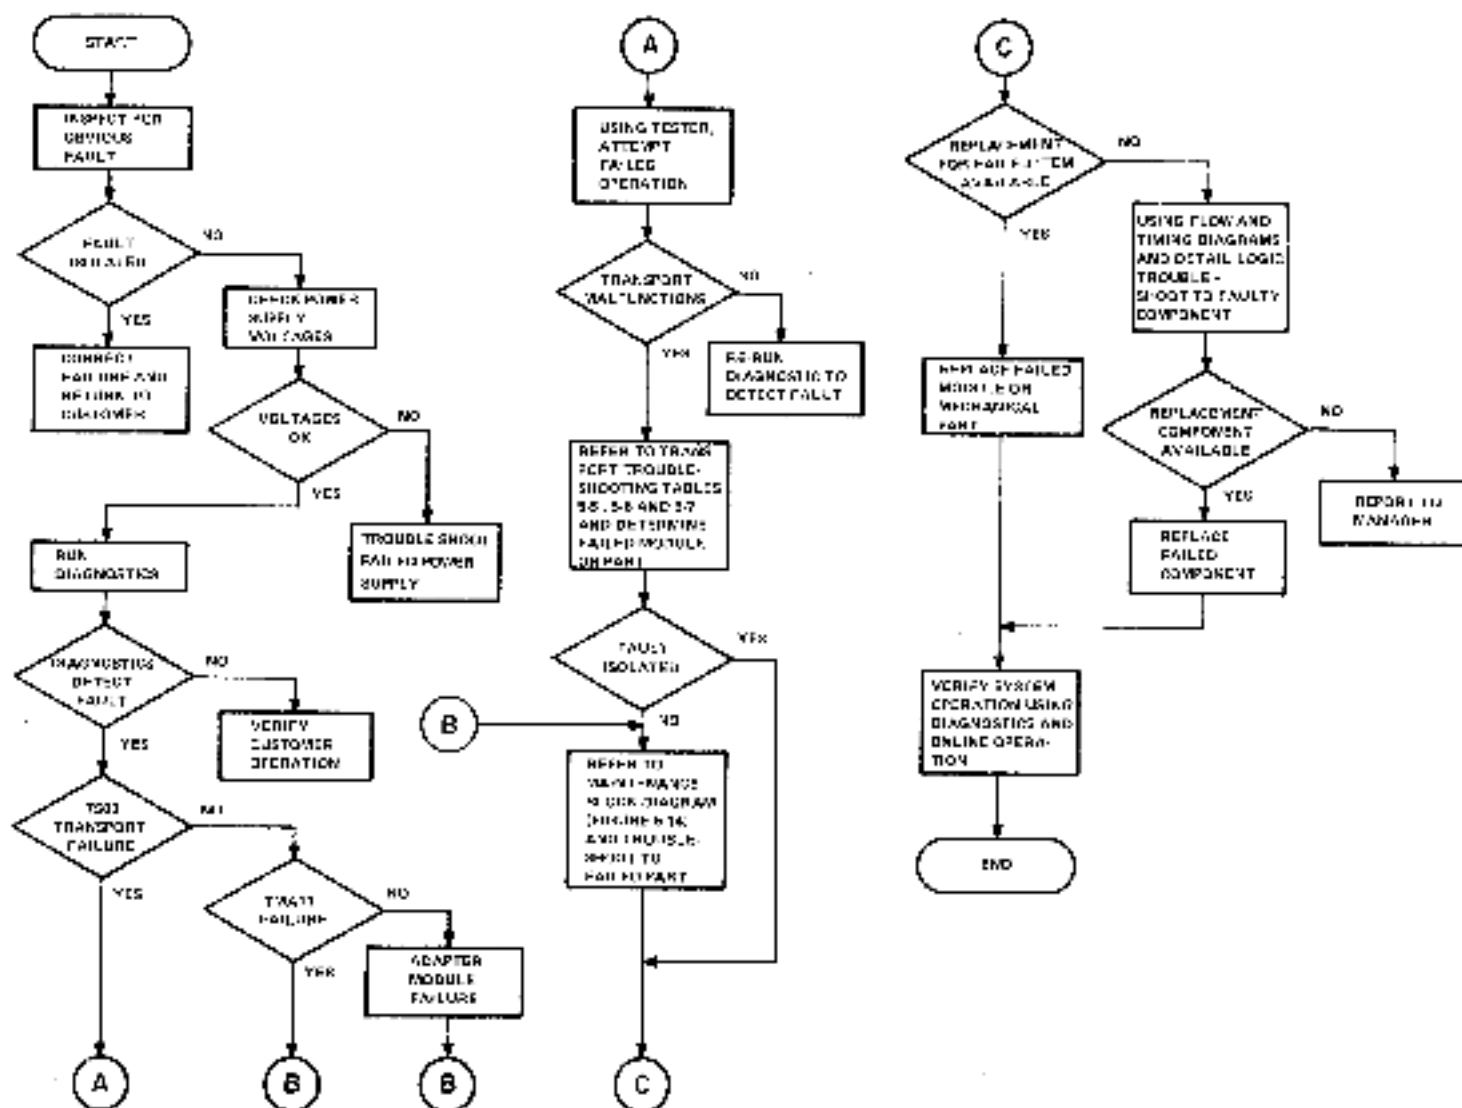

Figure 5-13 TMA11-M Corrective Action Flow Diagram
Figure 5-13 provides sequential procedures for troubleshooting the TMA11-M.
2. Refer to the corrective action flow diagram (Figure 5-13) and proceed as directed.